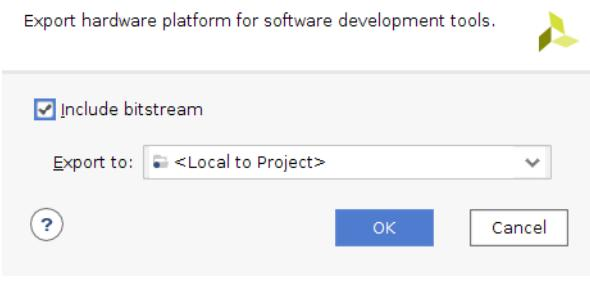

Figure 5. Export hardware
5. Export the new design with the bitstream under “File>Export>Export Hardware” (Figure 5).